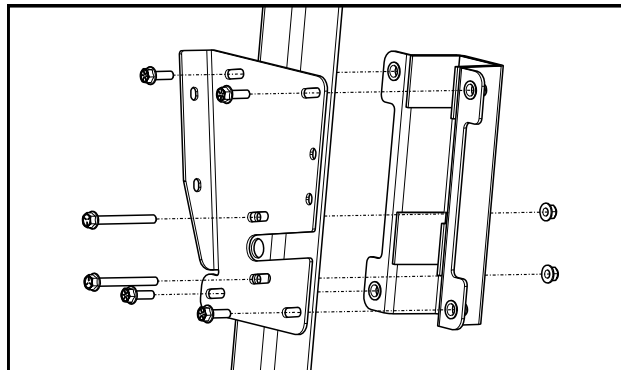

Fig. 2.1 (Assemble Brackets to ROPS)
- 2.1** Install a ROPS Bracket onto the outside of the ROPS through the holes for the rear lights, with the nuts on the inside of the ROPS. Wedge a ROPS mount bracket onto ROPS, secure to ROPS bracket. Leave loose. See fig. 2.1.